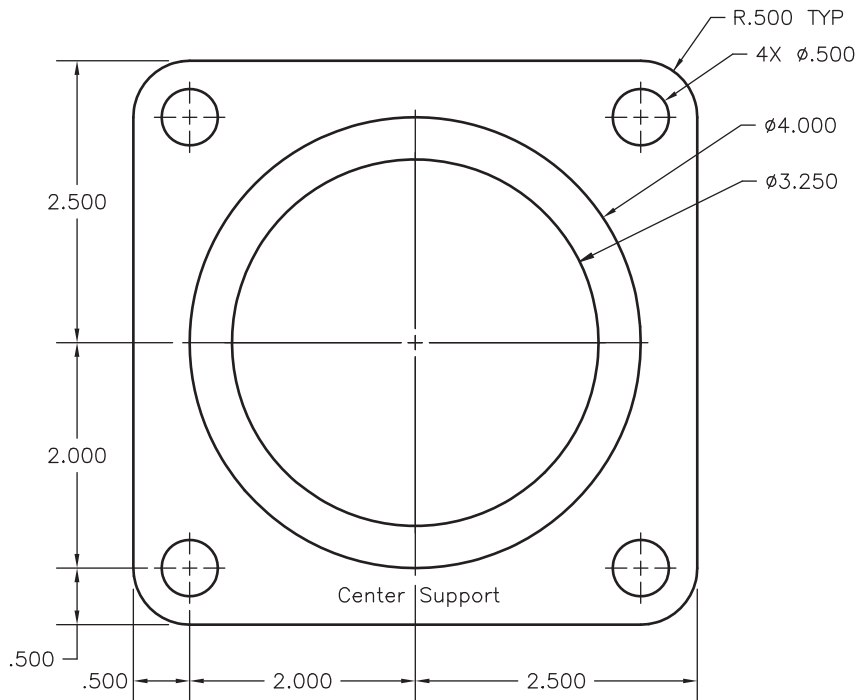

Fig. 19-3
3. Create a sectional view of the center support shown in Fig. 19-3. Use the dimensions shown in the figure to create it accurately. Do not include the text (**Center Support**), the center lines, or the dimensions.